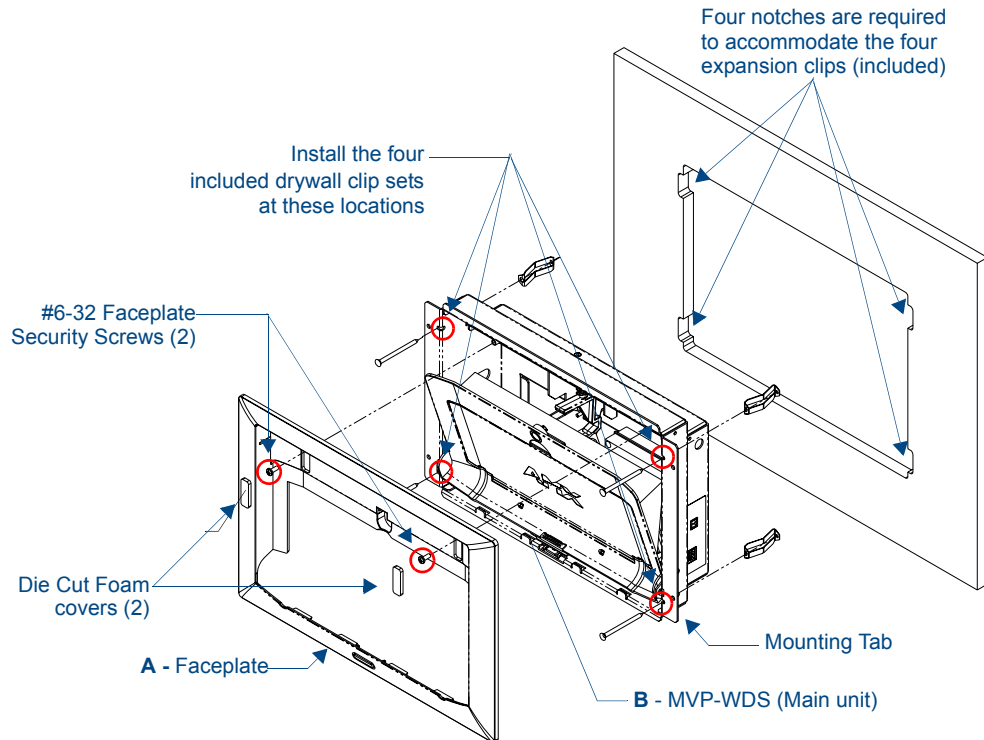

FIG. 12 MVP-WDS installation configuration for drywall surfaces
4. Install the four sets of drywall screws and expansion clips into the four oval notch locations along both sides of the main unit (FIG. 12).